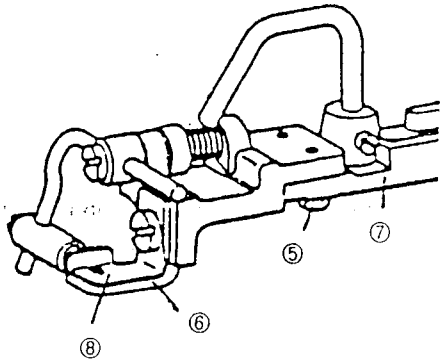

Fig. 38
As the metal shank button adapter ⑥ is a part of the set of the button clamp holder ⑦, attach it to the built-in clamp holder spot, as shown in Fig. 38